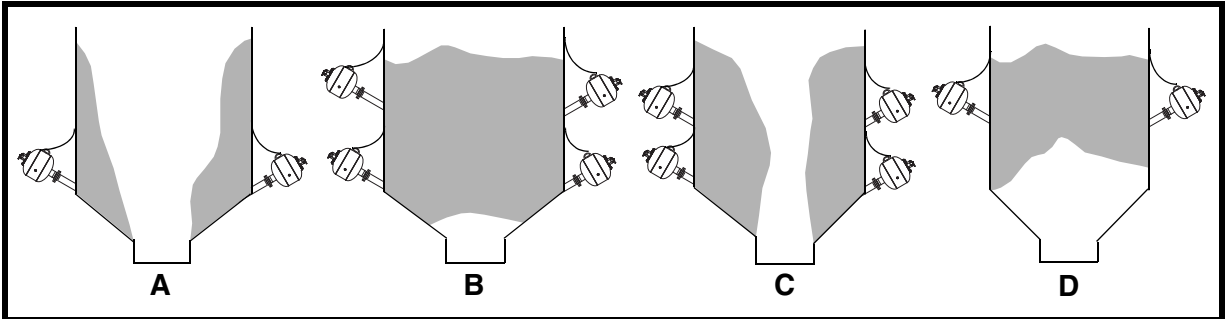

Figure 1. Restricted Material
The Martin[®] Hurricane Air Cannon is a pneumatic bulk material-moving system that quickly releases compressed air into storage vessels, transfer chutes, gas ducts, and feed pipes to maintain and/or restore material or gas flow to material that is clinging (A), bridging (B), rat-holing (C), or arching (D) (see Figure 1).